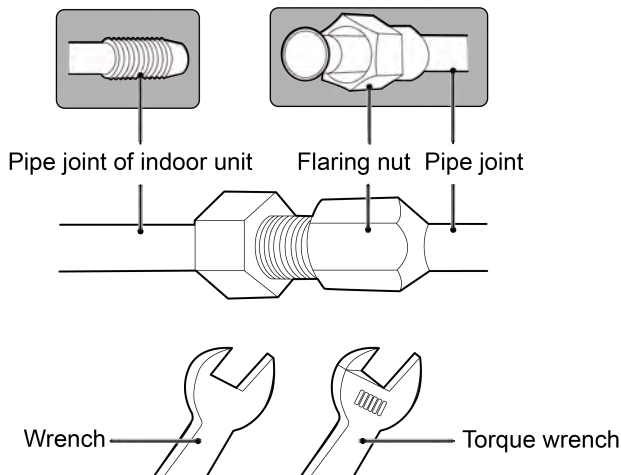

Fig.4.2
- (1) Aim the flaring port of copper pipe at the center of screwed joint and then tighten the flaring nut with hand as shown in Fig.4.2.
- (2) Use a torque wrench to tighten up the flaring nut until the wrench gives out a click sound.